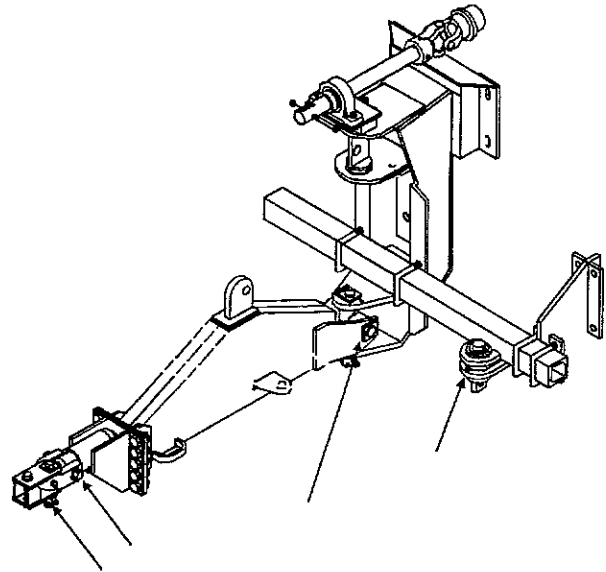

Figure 56. Hitch Lubrication Points
**C. - Hitch Components** - Lubricate the swivel pins for the steering cylinder, tongue pivots, and hitch bolt as shown in Figure 56.